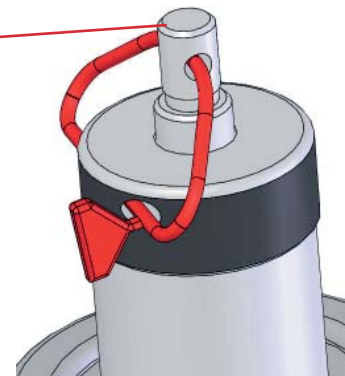

Fig. 4.3
- remove the safety lock from EV9, and insert them manually (Fig. 4.3)